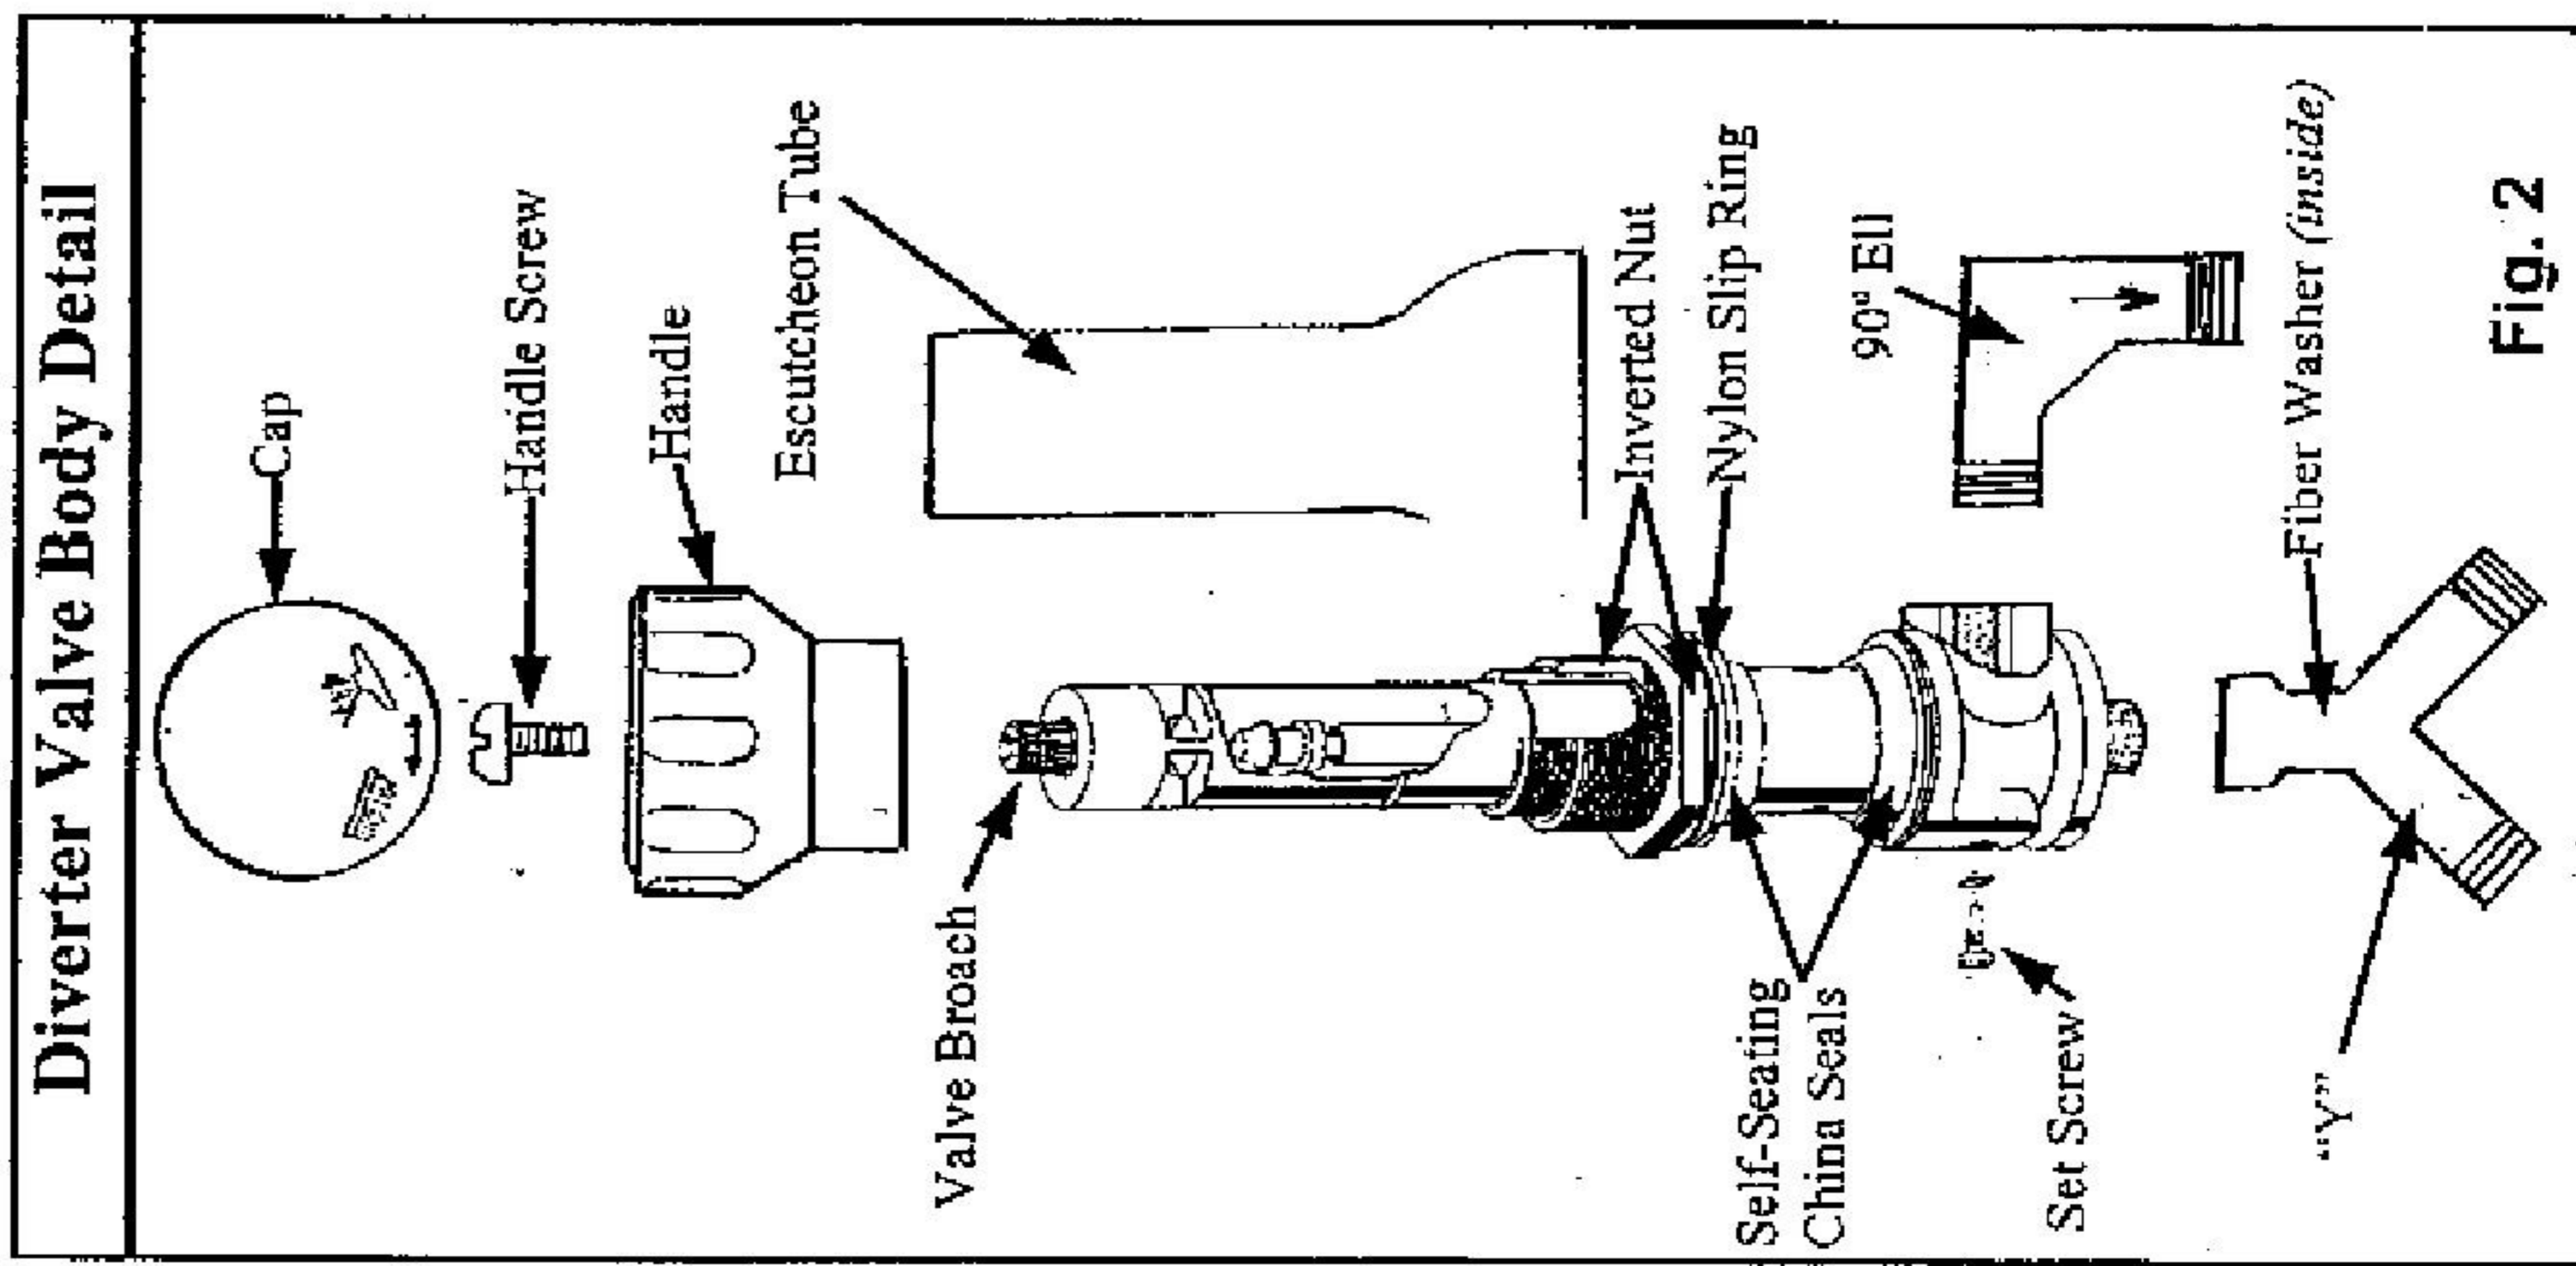

Fig. 2
- 1. Install Valve Body:** (See Fig. 2)
- 7. Install Bidet Valve Trim:** (See Fig. 2)